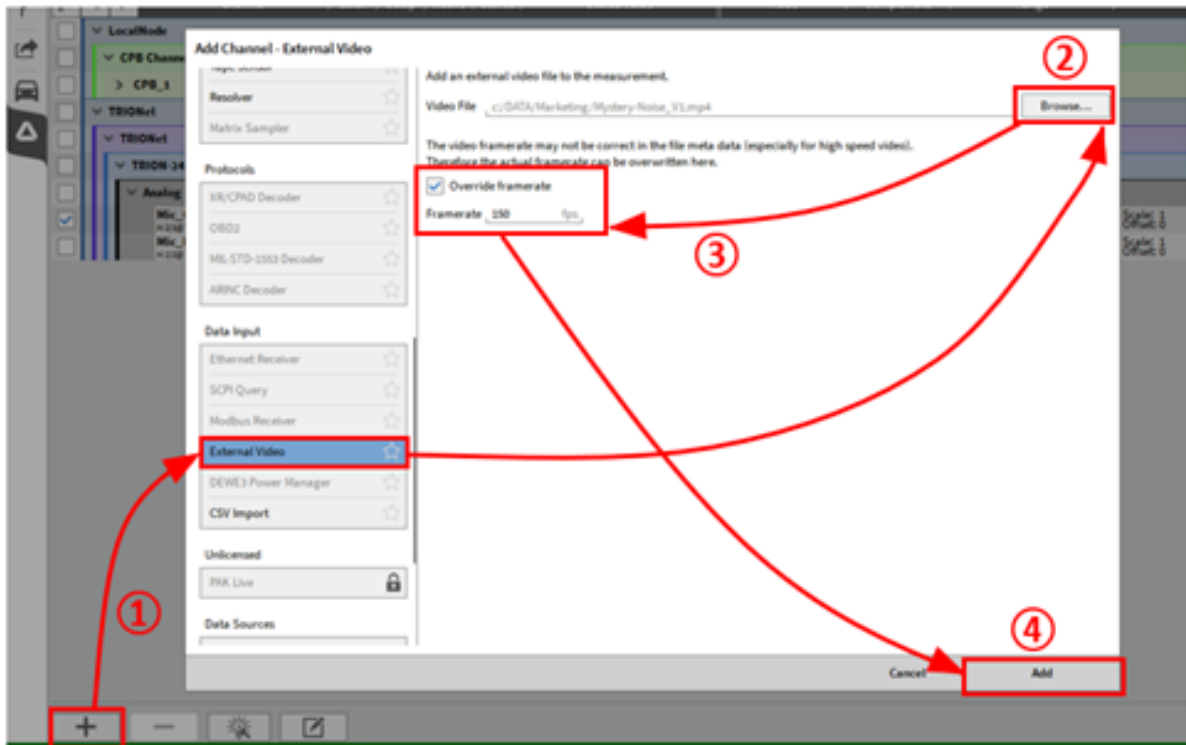

Fig. 7.154: Procedure to load an external video
- Go to the Channel List, press the + Button and select *External Video* (see ① in Fig. 7.154)
- Click on *Browse...* to select the video file (see ② in Fig. 7.154)
- Enter the native recording frame rate (see ③ in Fig. 7.154)
- Press *Add* to create a new video channel (see ④ in Fig. 7.154)